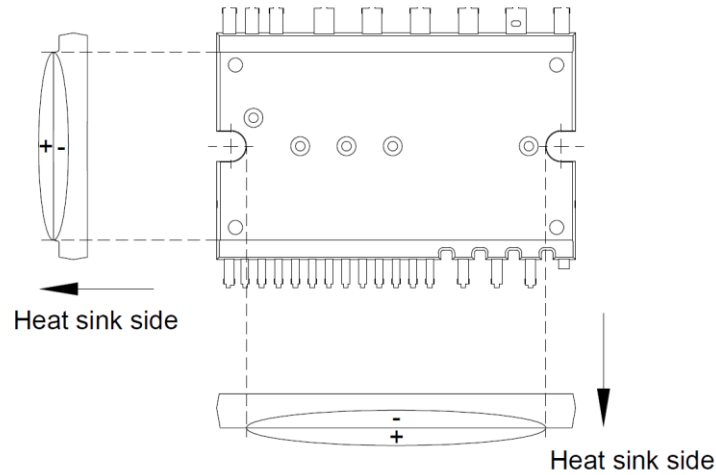

Figure 5. Flatness Measurement Position
- Fault signal (F_O) outputs when SC, UV or OT protection is triggered. F_O pulse width is different for each protection mode. At SC failure, F_O pulse width is fixed (minimum 20 μ s) or controlled by RC network (see Figure 5), but at UV or OT failure, F_O outputs continuously until recovering from UV or OT state.
- (1) GND pattern: It is recommended to connect the control GND and power GND at a single point (N1). GND pattern should be separated at the one point of the shunt resistors.
- (2) COM pin: It is recommended to only use the (16) COM pin to minimize SC detection noise. Leave pin (9) NC (No Connection).
- (3) A Zener diode D1 (24V/1W) is recommended between each pair of control supply pins to prevent surge destruction.
- (4) Snubber capacitor: The wiring between the IPM and snubber capacitor (C3) including the shunt resistors should be as short as possible.
- (5) C_{SC} pin circuit: C4 should be placed as close to C_{SC} pin and COM (16) pin as possible to prevent protection function errors.
- (6) Bootstrap capacitors: It is recommended that all capacitors are mounted as close to the IPM as possible.
- (7) Input circuit: The R and C filter circuit should be mounted to reduce input signal noise by high speed switching. C should be placed as close to COM (16) pin as possible.
- (8) V_{CF} pin circuit: V_{CF} output is open drain type. The signal line should be pulled up to the positive side of the 5V/3.3V logic power supply with a proper resistor R3. For the detailed design guide, please refer to the Figure 5.